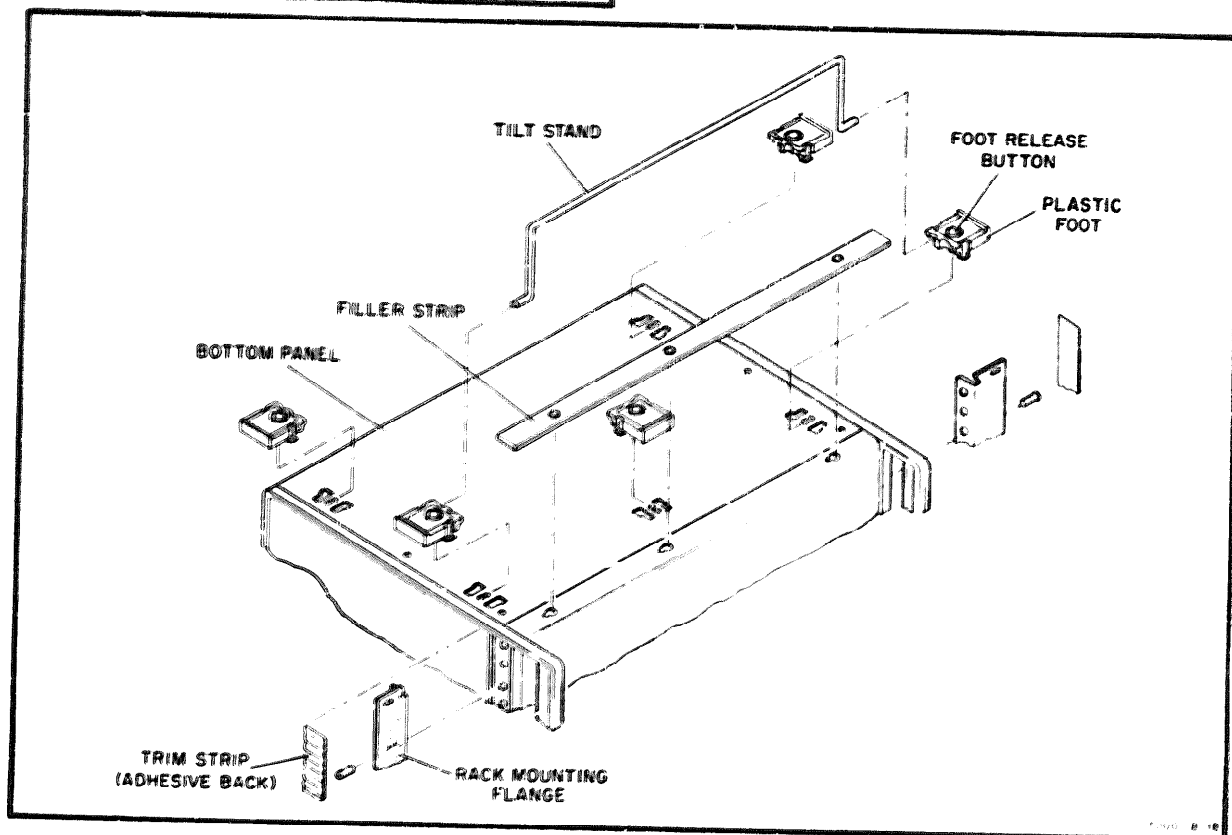

Figure 1-3. Rack Mounting Procedure
(2) **Rack Mounting.** A kit for converting the modular cabinet to a rack mount is supplied with each Model 141A. Instructions for making the conversion are given below. Refer to Figure 1-3 as an aid to identifying parts.